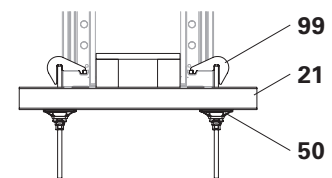

Fig. D8.04b
- Waler 85 (21) with Bulkhead Tie MX/TR (99) and Wingnut Pivot Plate DW15 ga (50). (Fig. D8.04b)